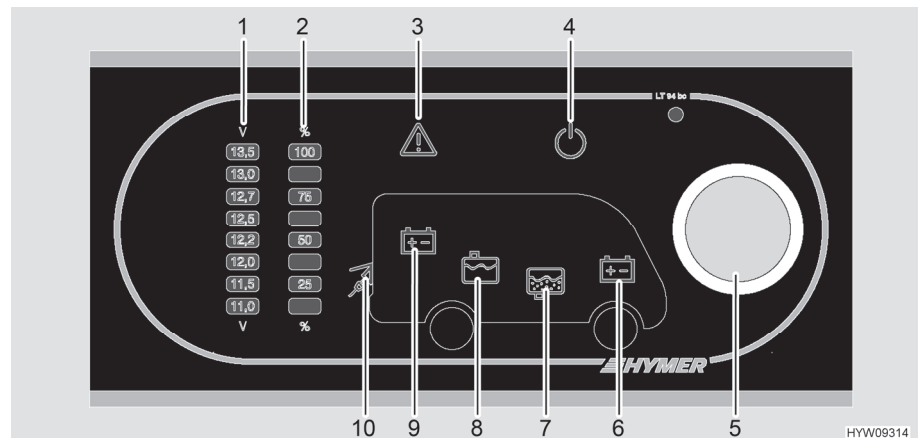

Fig. 134 Panel (LT 94)
The rotary knob (Fig. 134,5) switches the panel and the 12 V power supply to the living area on and off.
Switching on: ■ Press the rotary knob (Fig. 134,5): The 12 V living area power supply is switched on. The 12 V indicator lamp (Fig. 134,4) lights up.
Switching off: ■ Press the rotary knob (Fig. 134,5): The 12 V living area power supply is switched off. The 12 V indicator lamp (Fig. 134,4) goes off.
Use the rotary knob (Fig. 134,5) for reading the voltage of the living area battery as well as that of the starter battery. The voltage is displayed on the indicator scale for battery voltage (Fig. 134,1).
Displays: ■ Turn the rotary knob (Fig. 134,5) until the symbol for the desired battery lights up.
Living area battery voltage is displayed (Fig. 134,9)
Starter battery voltage is displayed (Fig. 134,6)
- Read the voltage from the indicator scale for battery voltage (Fig. 134,1).
Use the rotary knob (Fig. 134,5) for checking the fill level of the water tank or the waste water tank. The fill level is displayed on the indicator scale for the tank fill level (Fig. 134,2).
- Turn the rotary knob (Fig. 134,5) until the symbol for the desired tank lights up.
The level of the water tank is displayed (Fig. 134,8)
The level of the waste water tank is displayed (Fig. 134,7)
- Read the level from the indicator scale for the tank fill level (Fig. 134,2).
The Alarm warning light (Fig. 134,3) flashes if set limit values are exceeded or fallen below.
The Alarm warning light (Fig. 134,3) flashes if the battery voltage falls below 11 V. If the 12 V power supply is switched on, the relevant battery symbol (Fig. 134,6 or 9) also lights up and "11.0" starts flashing on the indicator scale for battery voltage (Fig. 134,1). Danger of total discharge.
The Alarm warning light (Fig. 134,3) starts to flash and the corresponding tank symbol (Fig. 134,7 or 8) lights up as soon as the water tank is empty or the waste water tank is full.
The 230 V indicator lamp (Fig. 134,10) illuminates whenever line voltage is available at the transformer/rectifier input.